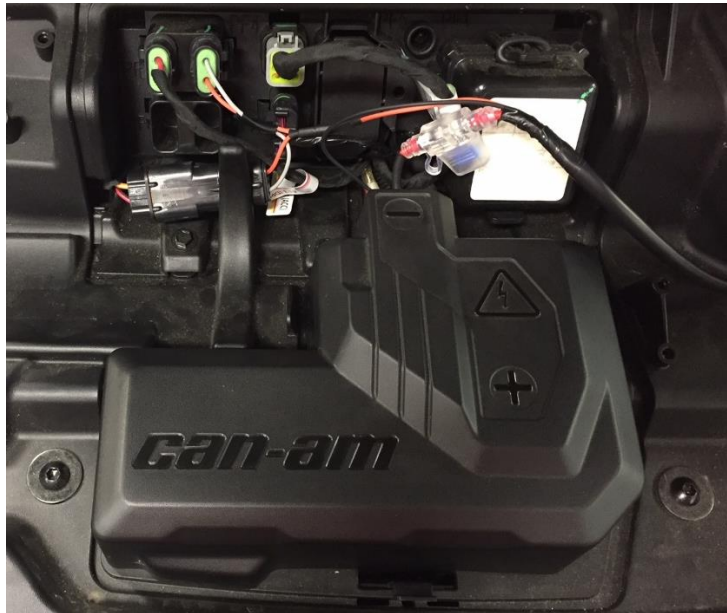

Figure 31: Reinstall the junction block cover.
27. Reinstall the junction block cover. See Figure 31.